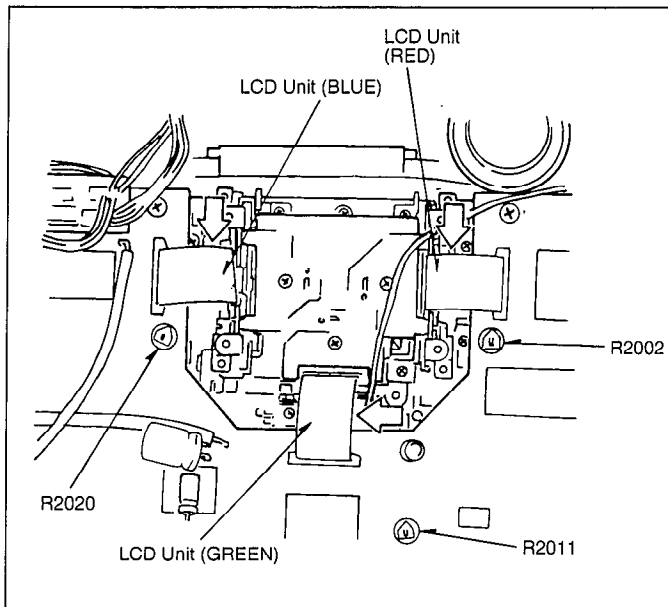

Fig. 8
8. Insert the black paper between (A) and (B) so that no light comes from any object other than LCD Unit (Red). (See Fig. 8)
13. Insert the black paper between (B) and (C) so that no light comes from any object other than LCD Unit (Blue). (See Fig. 8)